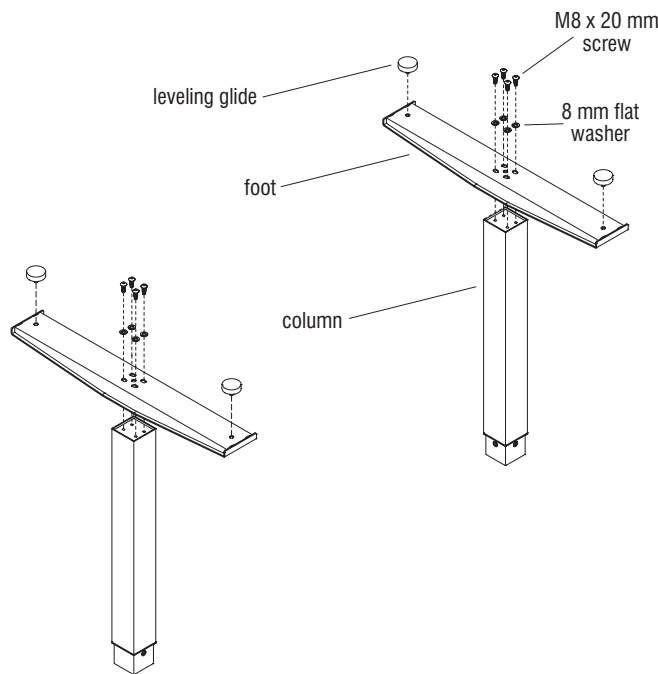

Figure 1
Note: When tightening the M8 screws, first twist in all four screws "finger tight". Then tighten the screws one quarter turn at a time using a diagonal tightening pattern as shown in Detail A. Repeat the diagonal pattern until all four screws are tight (Detail A & Figure 1).
1. Set a column on end with the smaller (inner) square tube on the floor. The threaded holes visible on the end of the column will be in a rectangular (not square) pattern (Figure 1).
2. Place the foot over the column end so the column fits into the square hole in the foot. The slotted holes in the foot should line up with the four holes in the column end. If not the foot needs to be removed and repositioned at 90 degrees (Figure 1).
3. Attach the foot using four M8 x 20 mm screws and four 8 mm flat washers, tightening each screw one quarter turn at a time in a diagonal pattern until all four screws are tight (Figure 1 & Detail A).
4. Thread leveling glides into the holes at the ends of the foot (Figure 1).
5. Repeat steps 1 through 4 for the second foot and column (Figure 1).